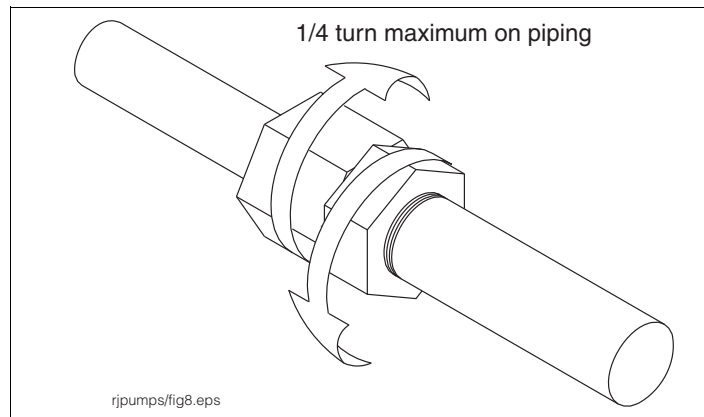

Figure 10. Loosening Column Pipe Locking Nut
4. Loosen the clinch assembly on the column pipe by unscrewing the set screw in the side of locking nut, then backing off the locking nut (see Figure 10).